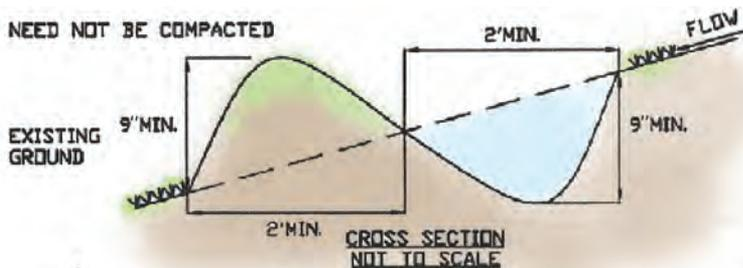

Figure 3.3. Combined berm/swale cross section.
- All berms should be compacted by heavy equipment, except for the combined dike/swale (Figure 3.3) and sand bag berms.